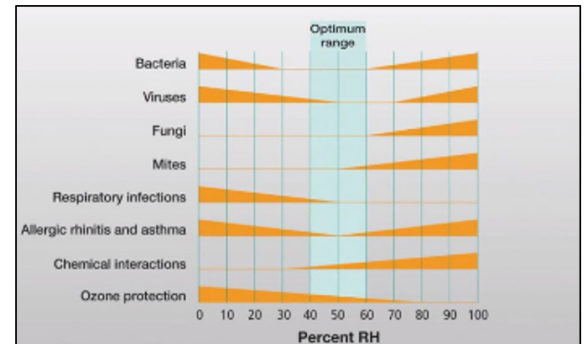

Figure 2 Health Impacts of Relative Humidity
- **People:** Controlling relative humidity between 40-60%RH reduces the risk of infection along with other respiratory illnesses (see Figure 2 below). It also makes for a comfortable environment.